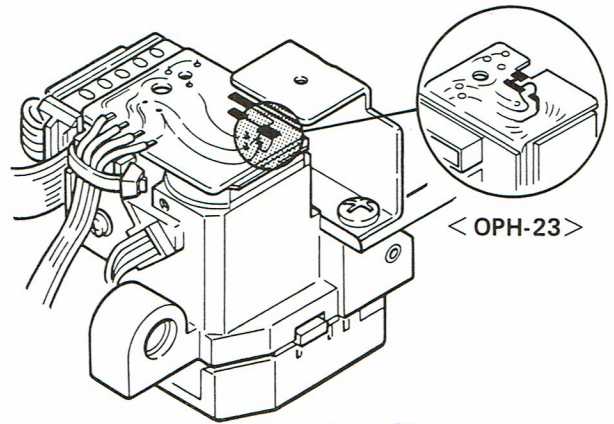

Figure 26
1. When mounting a new laser pickup, first connect the leads to connector and then unsolder the solder used to protect laser diode on P.C. Board. (Refer to Figures 26 and 28)
- Solder the leads shown in Figure 26 (indicated by circle) before disconnecting lead connectors.